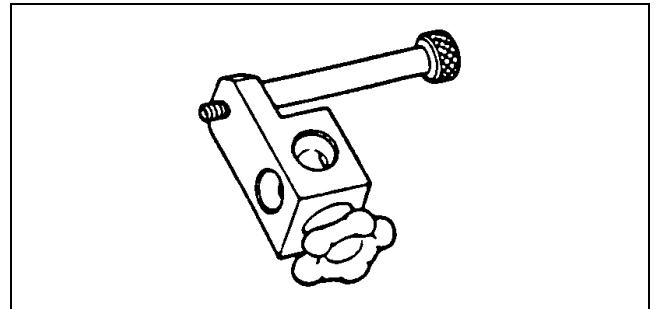

Figure 30
- TOR80504A2 Indicator Holder (Fig. 30)